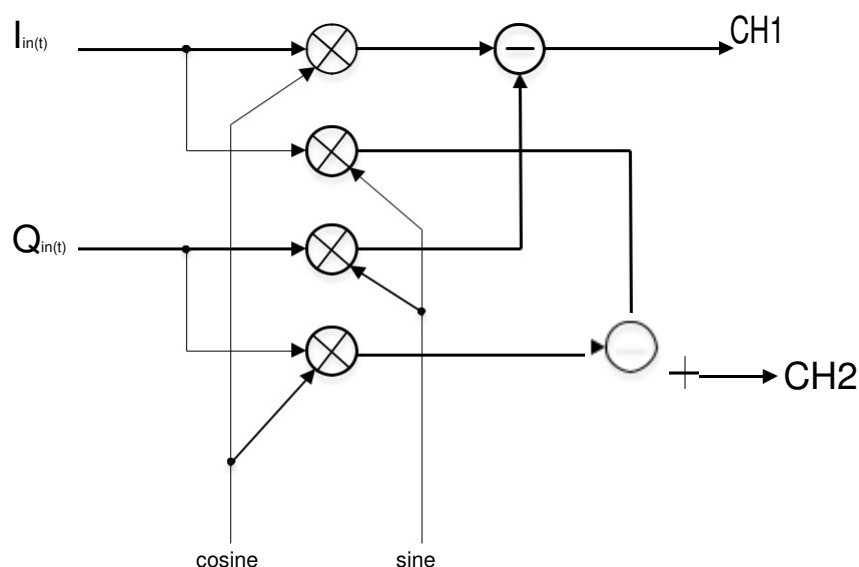

Figure 2-31 IQ Modulator in the SMG4000
Press **Parameter** → **Center Frequency**, to set the center frequency. The range of center frequency is 0Hz ~ 500MHz. If the center frequency is 0Hz, the two channels will output the IQ baseband signal. If the center frequency is not zero the two channels will output an intermediate frequency (IF) IQ modulation signal whose center frequency is the intermediate frequency. The figure below shows the diagram of the IQ modulator in the SMG4000 Figure 2-31.